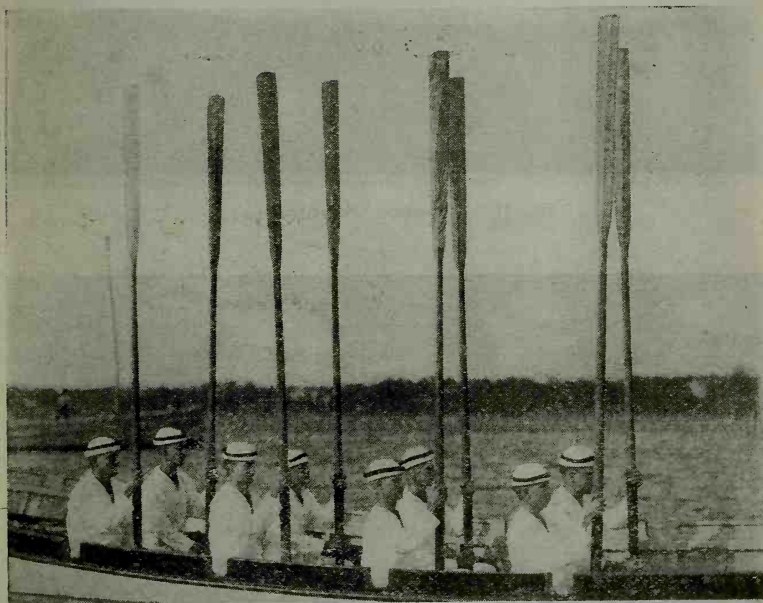

FIG. 10-4—Cutter. Position, *Toss*.
*Oars.*—(1) To salute. (2) To stop pulling for any purpose, keeping the oars out horizontal and blades feathered.
*Trail.*—(1) To salute. (2) To pass obstructions. For the latter, oars of either side may be trailed independently.
*Stand by to toss. Toss.*—Used only in cutter, with sunken rowlocks. (1) To salute. (2) In going alongside, when it is not desirable to boat the oars. The habitual command to be used when coming alongside. (See Fig. 10-4.) Given from position of *Oars*.